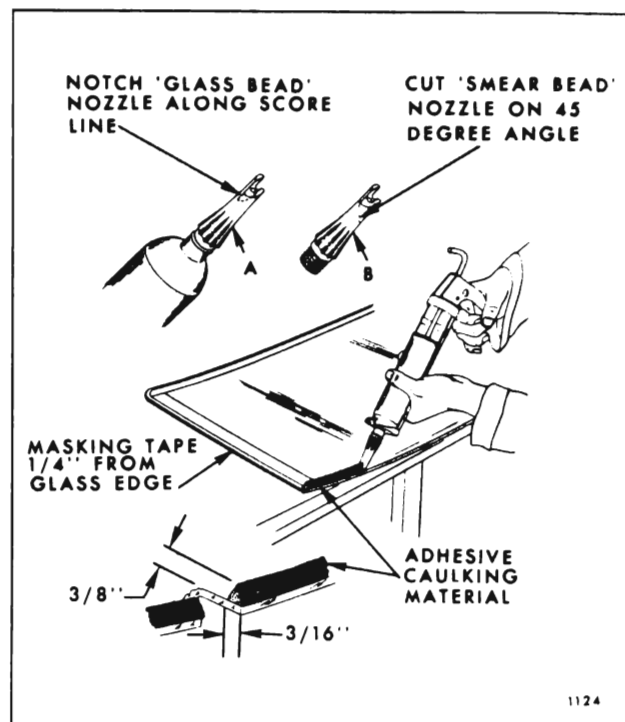

Fig. 4-3—Adhesive Glass Installation Extended Method
4. If extended method is required, cut off tip of one nozzle along score line (Fig. 4-3). This glass bead nozzle will be used to apply bead of adhesive caulking material to glass. Cut tip off other nozzle at 45° angle 1" below end of nozzle (Fig. 4-3). This nozzle will be used to apply "smear bead" of adhesive caulking material to pinchweld flange.
7. Positioning the gun and nozzle as shown in Figure 4-3, carefully apply a smooth continuous bead of caulking material 3/8" high by 3/16" wide at base completely around inside edge of glass. When material in first tube is dispensed, quickly insert second tube and continue application of bead. After application, check bead and fill all voids and air bubbles.